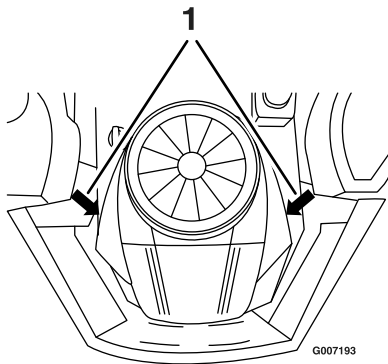

Figure 24
2. Pull the wire off of the spark plug (Figure 24). Clean around the spark plug to prevent dirt from falling into the engine and potentially causing damage.
3. Push the wire onto the spark plug (Figure 24).